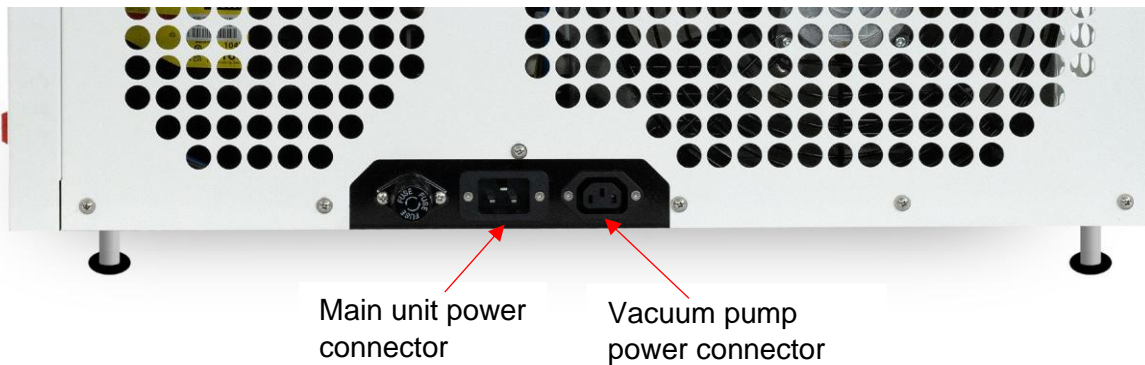

Figure 9
- Locate the power connectors for the main unit and the vacuum pump at the right side of the freeze dryer (Figure 9).